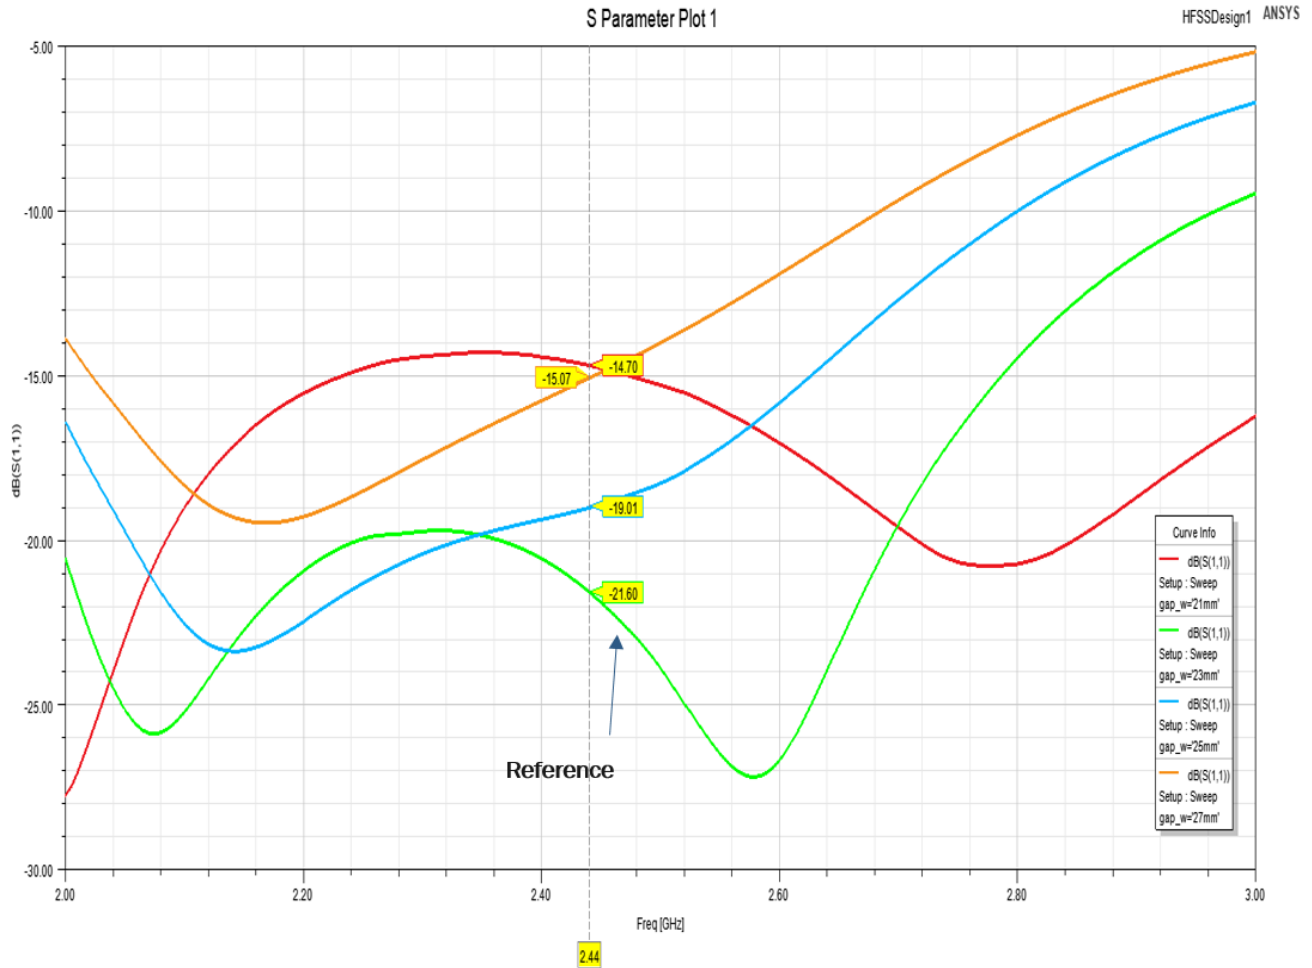

Figure 11. gap_w Parameter Plot
- gap_w Parameter Plot (Figure 11)